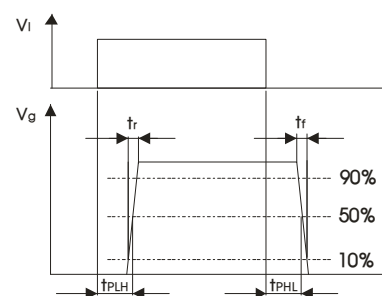

Fig.3: Signal delay of Overcurrent/Short-circuit
2) Input and Output delay time, rise time and fall time characteristics are defined in Fig.3.